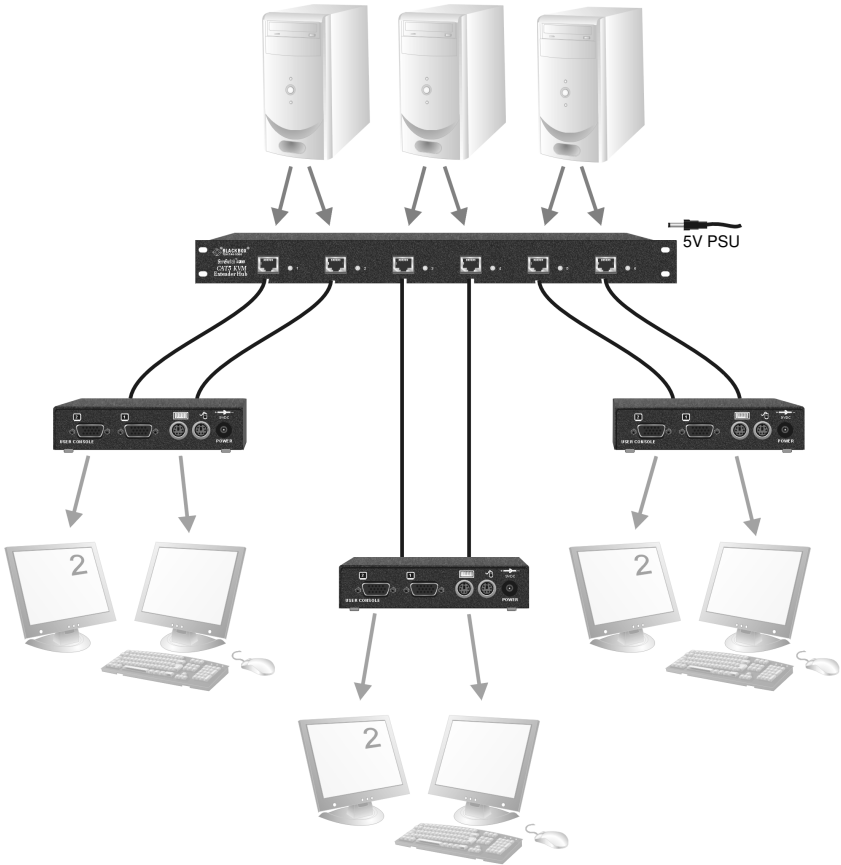

Figure 9
- With dual-head Remote units, using adjacent hub ports to transmit the primary video/data and secondary video signals (see Figure 9).